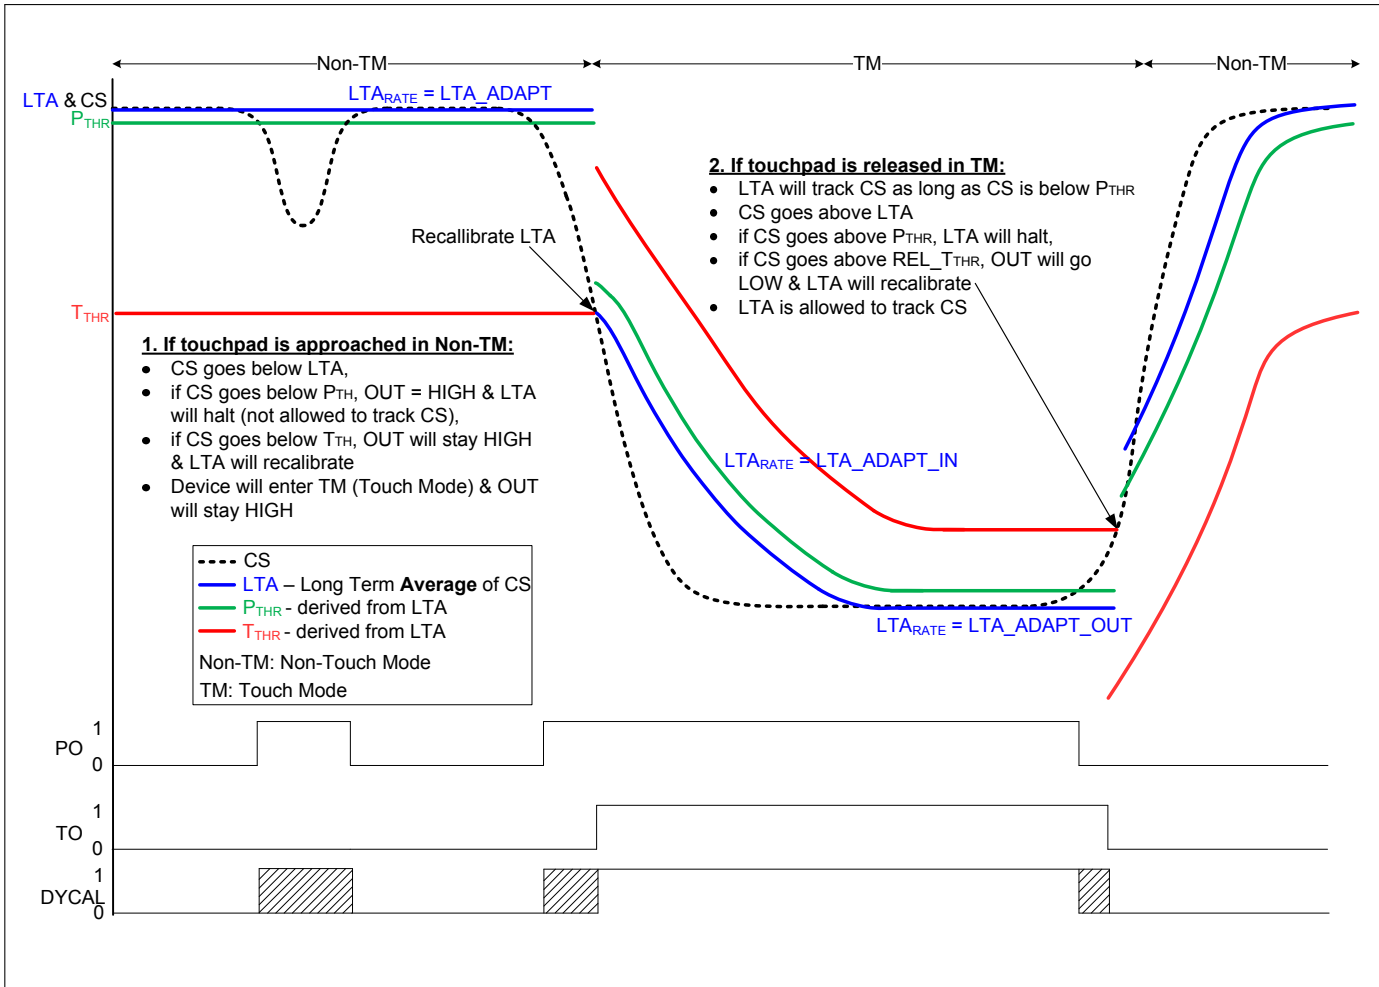

Figure 5.1: DYCAL Overview.
Figure 5.1 is a visual representation of the DYCALTM functionality. The DYCAL output is used to indicate the status of a DYCALTM event (both a proximity and a touch event). The DYCALTM functionality is summarised below.
The LTA filter will adapt according to the LTA_ADAPT rate if the IQS253 is in non-TM and no proximity event is detected. See Figure 5.1 for a visual representation.
The LTA will adapt according to the LTA_ADAPT_IN rate if IC is IN Touch Mode (TM) and the LTA is adjusting towards CS. This rate will apply until LTA has reached CS. See Figure 5.1 for a visual representation.
This is the rate at which LTA adapts before CS is on its way OUT of TM. See Figure 5.1 for a visual representation.